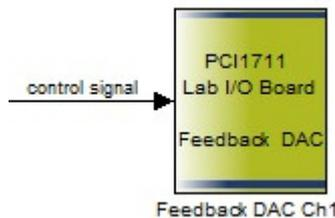

Figure 37 Feedback DAC Block – one input
Connect the application with the PCI1711 card by pressing the CONNECT TO TARGET button (Figure 37). The application will not run yet. Now turn the Coupled Tanks power on.
- There is one input in this block and the block reads the value from this input and sends it to the analogue output of the PCI-1711 card (Figure 37).